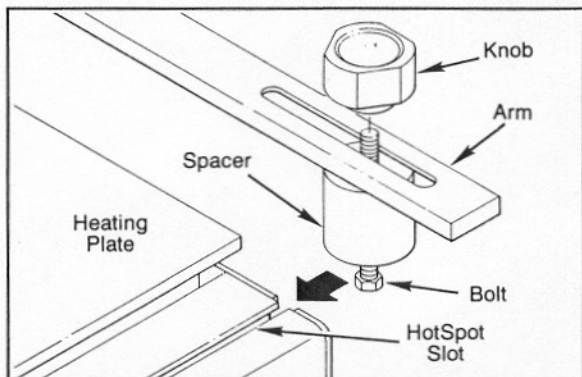

FIGURE 3. ATTACHING CLAMP ASSEMBY
2. From rear of unit, slide Clamp Assemblies into the top "T-Slots", secure with Clamp Knobs, refer to Figure 3.